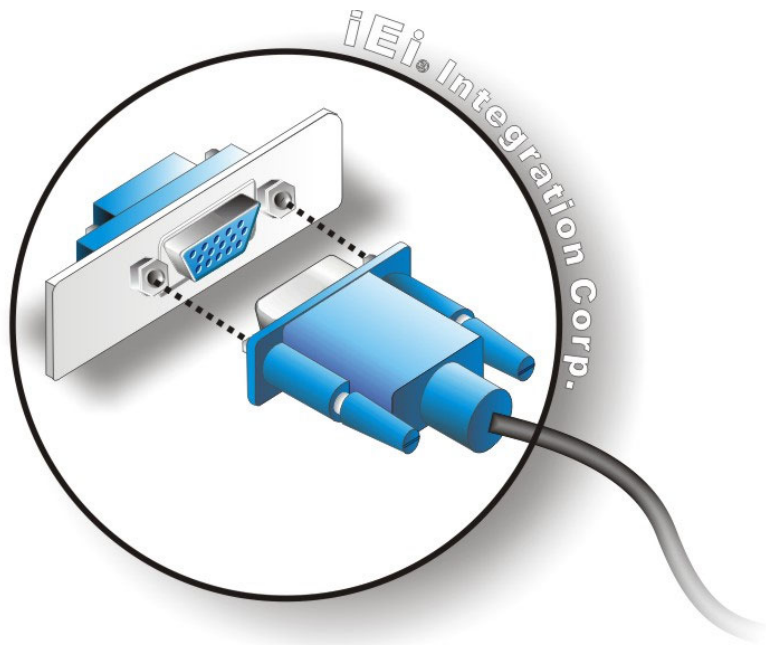

Figure 3-45: VGA Connector
- Step 3:** Insert the VGA connector. Once the connectors are properly aligned, insert the male connector from the VGA screen into the female connector on the PPC-FxxA-H81. See **Figure 3-45**.